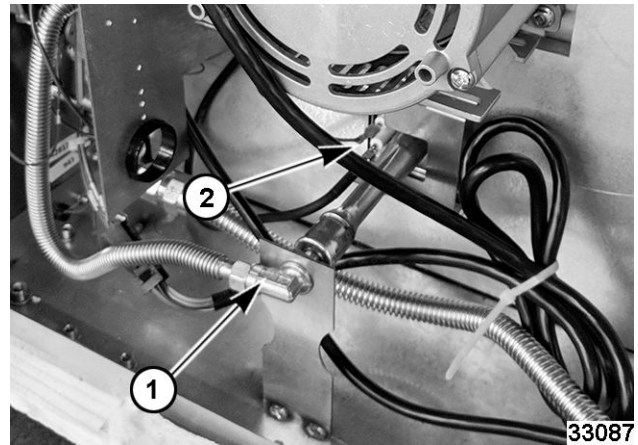

Fig. 19
2. Remove nut holding orifice assembly (1, Fig. 19).
3. Disconnect lead wires to electrode assembly (2, Fig. 19).